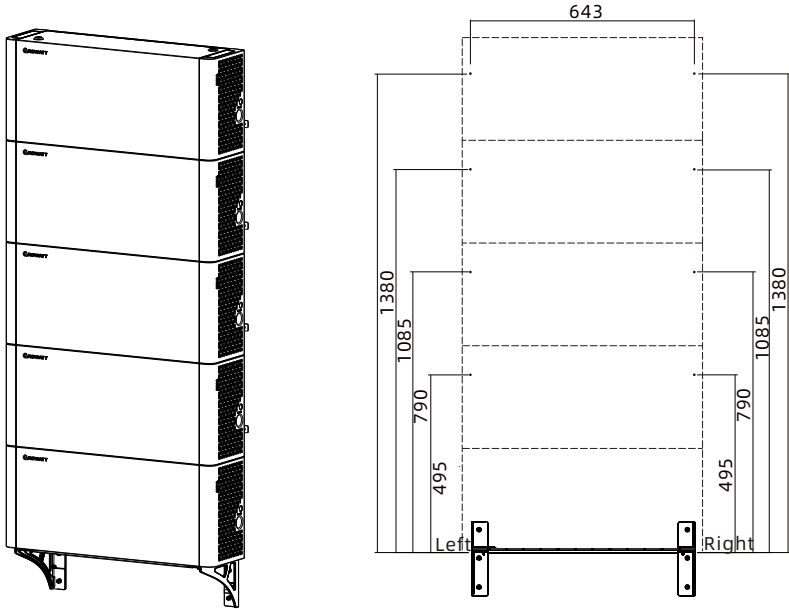

Figure 4.11: Mounting Hole Dimensions
Step 2: Fix the wall bracket on the wall. Determine the hole positions for mounting the remaining batteries according to the dimensions shown in Figure 4.11 , mark the hole positions using a marker. Drill holes using the alloy drills with a diameter of 8mm (the hole depth: 45mm to 50mm). Install the M6 expansion bolts.